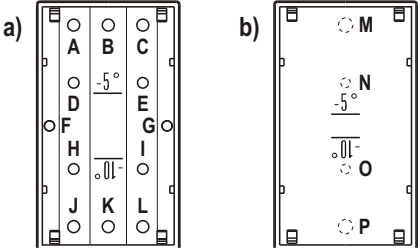

Fig. 3 Brackets: **a)** Corner/Side-mount; **b)** Backplate-mount
- Select the appropriate bracket then remove the knockouts, as per Table 1 and Figure 3.
- Pass the connection wires (not the insulation) through the wire entry (see Tab. 1 and Fig. 3).
- Position the bracket as required (see indications on bracket) then, using the anchor screws, secure it in place (see Tab. 1 and Fig. 3).
Tab. 1 (Refer to Fig. 3) The first line shows the possible values of the vertical angles; the first column shows the possible values of the horizontal angles. In this column «right» indicates that the detector, seen from the front, is facing right with an angle of 20°; «left» indicates that the detector is facing left with an angle of 20° (-20°). The last column shows the bracket knockouts (mounting) and wires entry knockouts (entry). The overscored letters indicate **CONNECTIONS** Use shielded cable for the connection. Connect one end of the shield to the Control panel negative and leave the other end (detector end) disconnected. If the detector is a considerable distance from the Control panel, check for voltage drop (required voltage range: 9 V to 15 V).